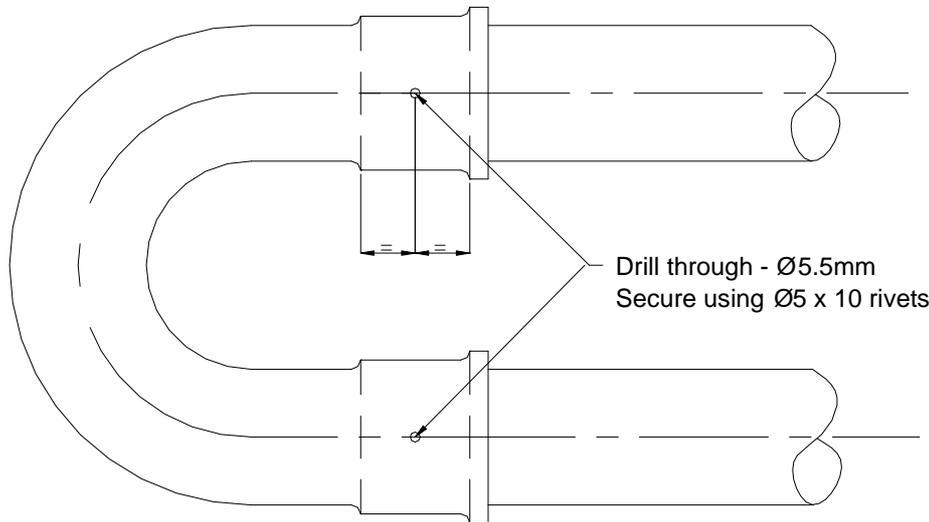

Fig. 19
- 4.3.1 Remove the packaging/protection from the Radiant Tubes and ensure that they are clear internally. Place the Radiant Tubes on trestles, providing 150mm minimum clearance above the floor and space 305mm apart with the ends of the tubes in line. Ensure that the welded seam of the tube is in contact with the hanger bracket (see 4.3.2 below) i.e. facing away from the reflector. Assemble the U Bend to the tubes, ensuring that the U Bend engages fully. Drill one Ø5.5mm hole through the U bend and Radiant Tube in the upper surface of each leg of the U Bend, at a distance midway along the swaged portion of the 'U' bend as shown in Fig. 19. Rivet the U Bend to the Radiant Tubes using the two Ø5 x 10 rivets provided (fastenings pack).